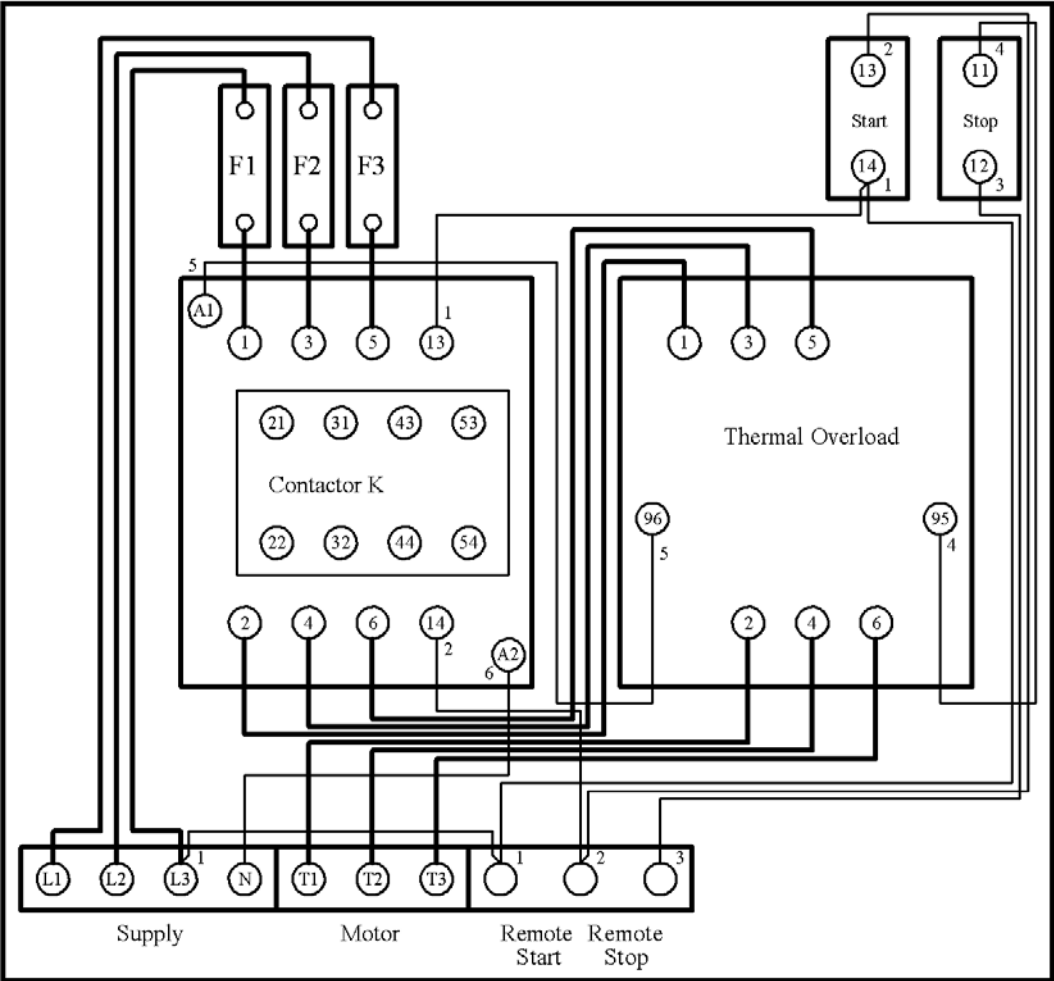

Figure 1
5. Convert the wiring diagram of figure 1 to a circuit diagram.